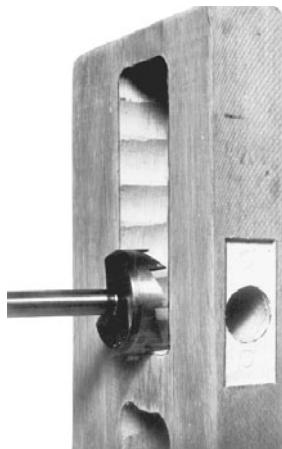

Figure 18.45 Preso-Matic installation template, 2½-inch backset.
1. Bore the opening for the lock and latch (Fig. 18.45) using the required template that comes with the unit (Figs. 18.46 and 18.47).